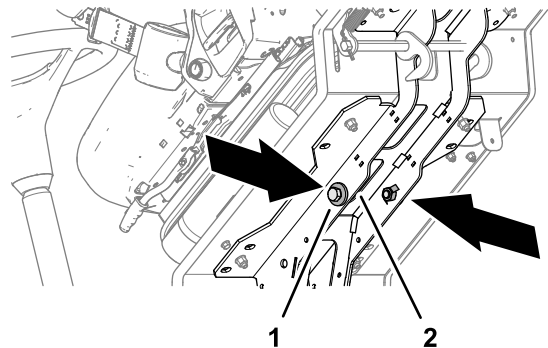

Figure 34
4. Remove the 2 bolts 12 x 40 mm and 2 washers 12 mm stored in the platform support rails (Figure 34).